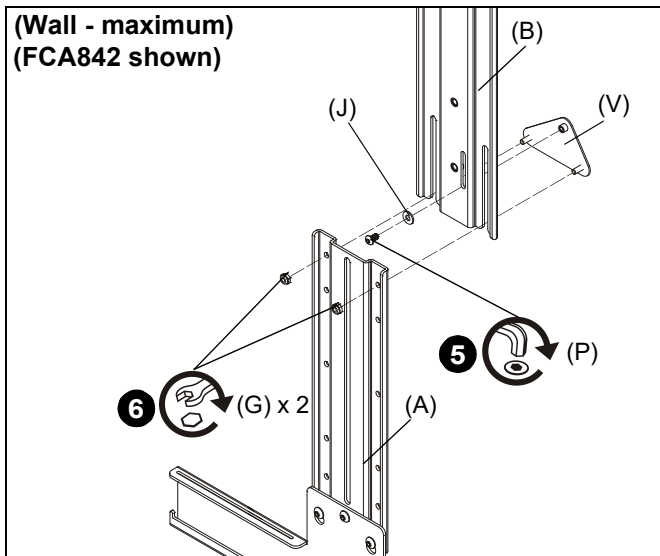

Figure 5
- (For **maximum extension**) Use #10-32 x 3/8" button head cap screw (P) and small washer (J) to secure adapter plate (V) to main bracket (B). (See Figure 5)
- (For **maximum extension**) Use two #10-24 lock nuts (G) to secure upright bracket (A) to main bracket (B) and adapter plate (V). (See Figure 5)